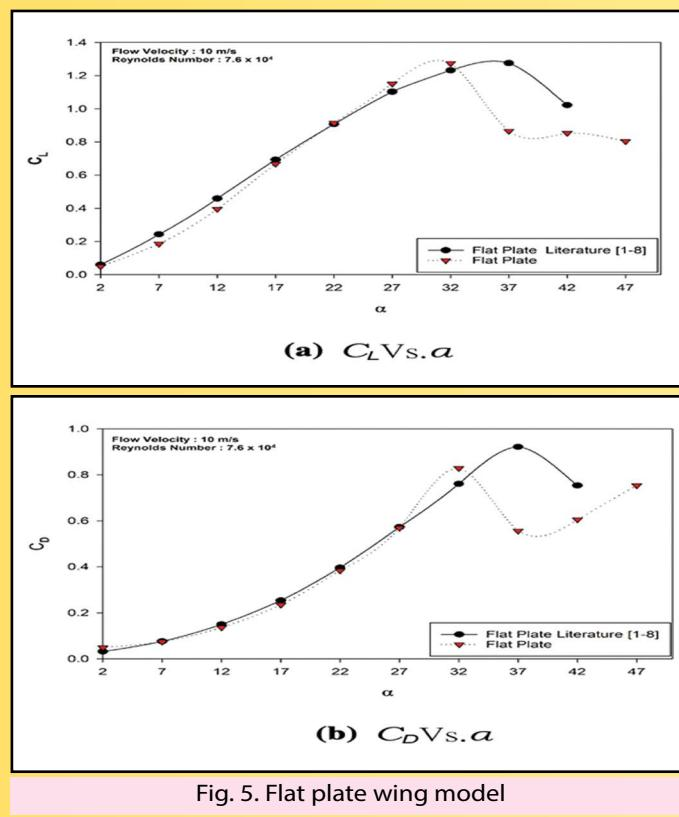

Fig. 5. Flat plate wing model
Flat plate model was placed in the test section and the tunnel was run at 10 m/s, three sets of data were obtained at various angles of attacks. The results obtained were then compared with literature [1–8] as shown in Fig. 5. In Fig. 5a, it is seen that flat plate wing CL increases rapidly with high non-linearity even at small angles of attacks which agrees well with results of the existing literature [1–8]. The difference in maximum stall angle was observed in a flat plate wing model, stall was observed around 30°, while in data extracted for flat plate wing from literature [1–8], stall occurs at around 35°, this disagreement is likely to be the effect of Reynolds number ( $Re$ ), since mean value of CL was obtained from various research papers [1–8] wherein  $Re$  number was mostly of the order of 105, while these experiments were conducted at  $Re \sim 105$ . Also, the value of  $CL_{max}$  obtained for flat plate wing is in good agreement with the existing literature. It is seen in the plot that the lift coefficient increases non-linearly up to stall and then a sudden loss occurs, the non-linear increase in CL is the result of lift contribution from wing tip vortices which are very strong in low aspect ratio (AR) wings. At stall angle, these wingtip vortices break thus resulting in loss of induced lift which in turn reduces the overall lift, which justifies the sudden reduction in CL.